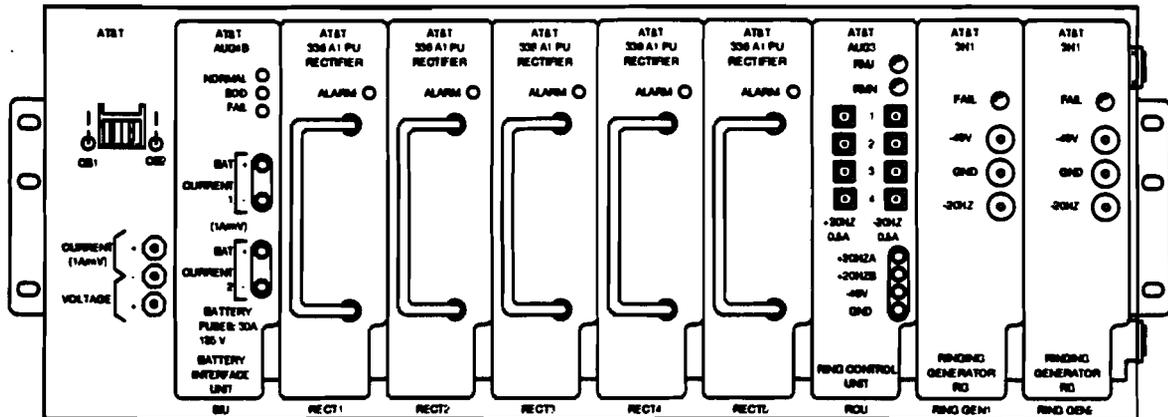

Figure 2 — J1C182BD Power Shelf
3. Insert one 336A RECTIFIER into first vacant RECT slot (counting left to right) in power shelf (Figure 2).